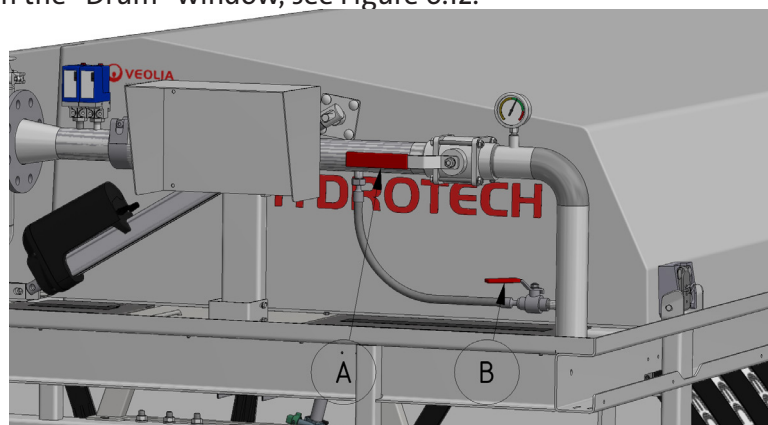

Figure 6.9 Main valve A and bypass valve B.
2. Open the bypass valve (B), see Figure 6.9.
7. Close the main valve (A), see Figure 6.9.